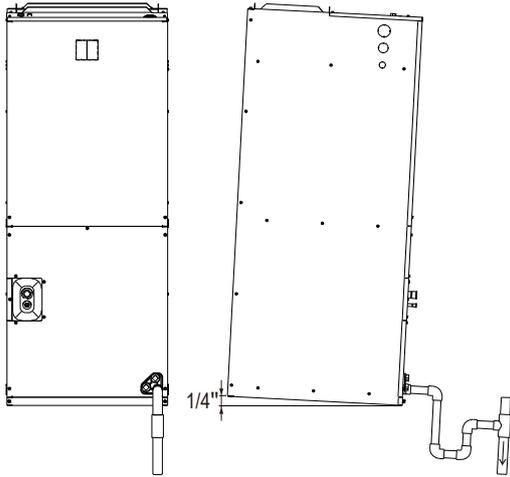
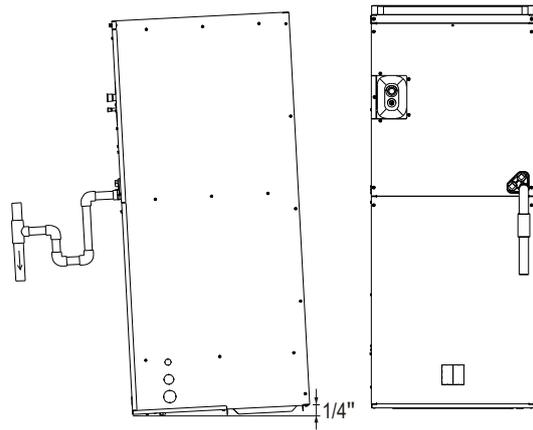
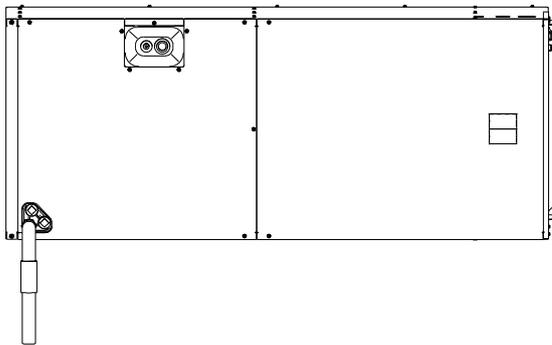
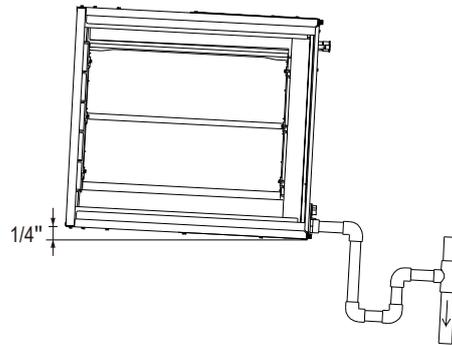

Fig.8-2 Vertically upflow view
Fig.8-3 Vertically downflow view
Fig.8-4 Horizontally right view
Fig.8-5 Horizontally left view
- Make sure unit is level or pitched slightly toward primary drain connection so that water will drain completely from the pan. Up to an additional 1/4" rise over the width or depth for the unit is allowed to create additional sloping towards the drain. Unit must be positioned between level and 1/4" rise, sloping toward the drain connections. See Fig.8-2, Fig.8-3, Fig.8-4, Fig.8-5.